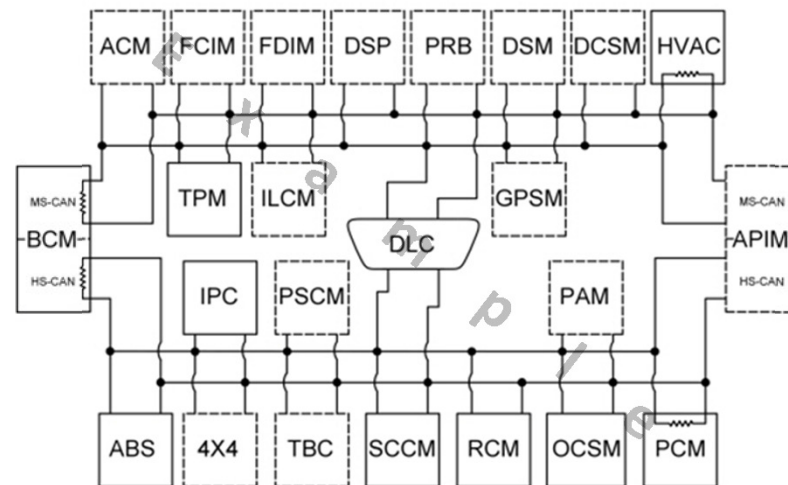

Figure 1 – Dashed lines in this Topology map style are optional modules
- Identifying which modules are optional (Figure 1).